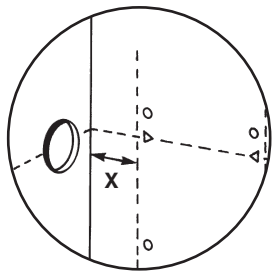

Fig. 45
1. For both Left and Right Hand Flue - Measure the distance from the wall to the nearest line marked from the template. This will be known as dimension **X** (Fig. 45).